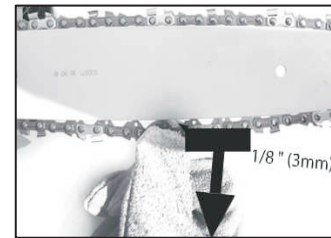
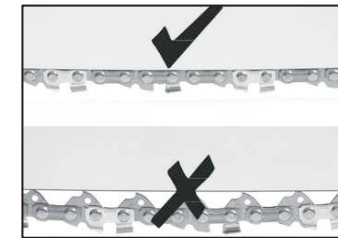

Fig.19A
Fig.19B
- With the saw on a firm surface, check the saw chain tension. The tension is correct when the chain snaps back after being pulled 1/8 inch (3mm) away from the guide bar with light force from the middle finger and thumb as shown in figure (Fig.19A). There should be no "sag" between the guide bar and the chain on the underside as shown in figure. (Fig.19B)